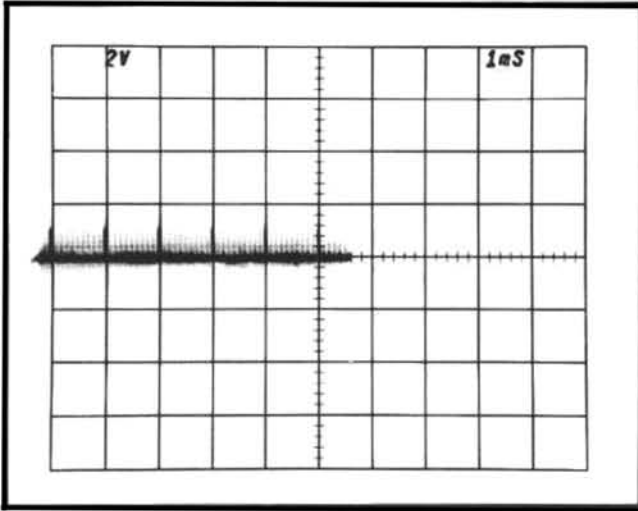

Fig. 5-9. CRT display when checking sweep length.
b. Move the eleventh 1 ms marker to the center vertical line with the horizontal POSITION control. See Fig. 5-9.